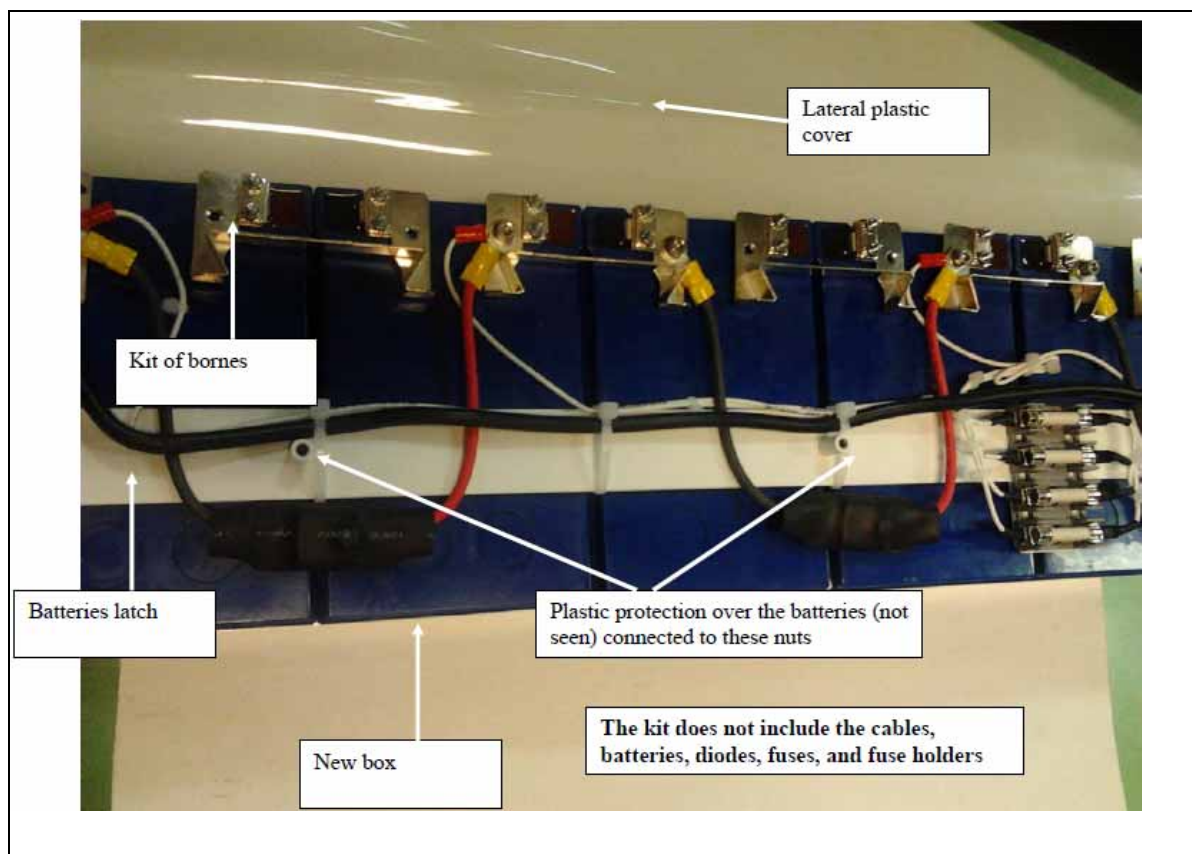

Figure 4
- SC+A521050-01 Tray upgrade kit, consisting of new mechanical parts without batteries, cables, diodes, fuses, and fuse holder. (see figure 4).